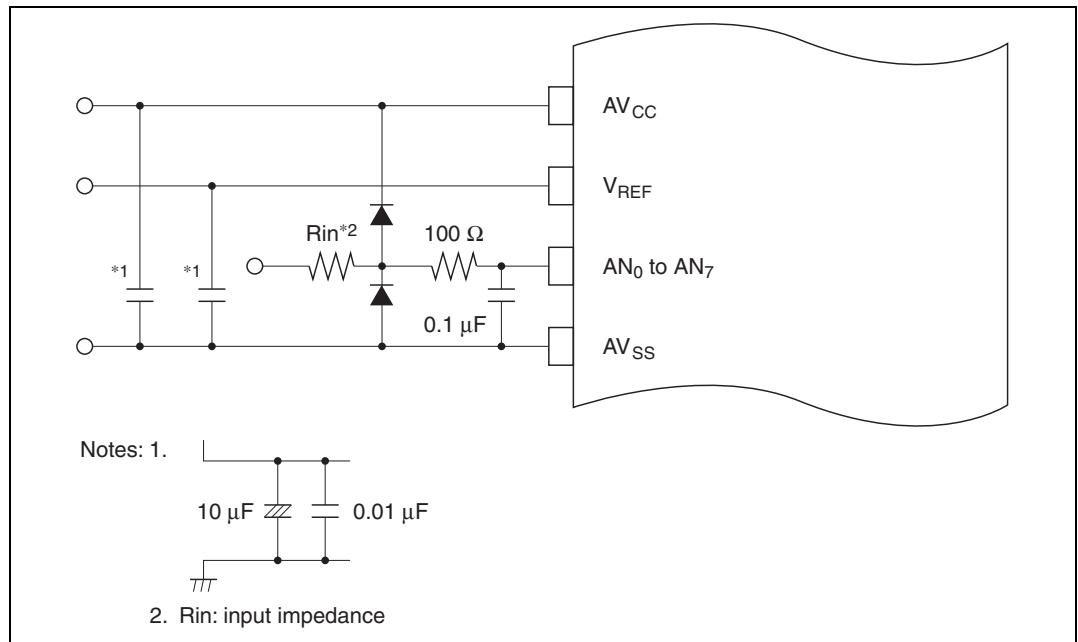

Figure 15.7 Example of Analog Input Protection Circuit
5. Note on Noise: To prevent damage from surges and other abnormal voltages at the analog input pins (AN_0 to AN_7) and analog reference voltage pin (V_{REF}), connect a protection circuit like the one in figure 15.7 between AV_{cc} and AV_{ss} . The bypass capacitors connected to AV_{cc} and V_{REF} and the filter capacitors connected to AN_0 to AN_7 must be connected to AV_{ss} . If filter capacitors like the ones in figure 15.7 are connected, the voltage values input to the analog input pins (AN_0 to AN_7) will be smoothed, which may give rise to error. Error can also occur if A/D conversion is frequently performed in scan mode so that the current that charges and discharges the capacitor in the sample-and-hold circuit of the A/D converter becomes greater than that input to the analog input pins via input impedance R_{in} . The circuit constants should therefore be selected carefully.